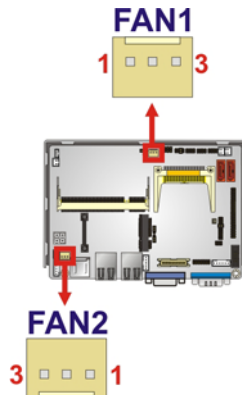

Figure 3-7: Fan Connector Locations
- CN Location:** See **Figure 3-7**